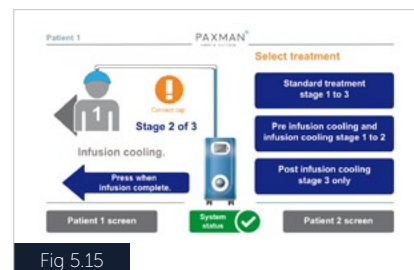

Fig 5.15
- An orange exclamation symbol  will appear (Fig 5.15).